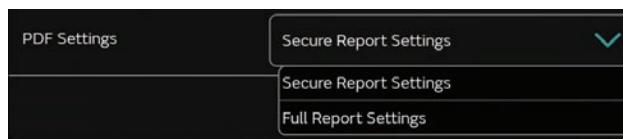

Figure 30. PDF Report Type
4. Tap on the **down arrow** and select the PDF Settings, either Secure Report Settings, or Full Report Settings (Figure 30).